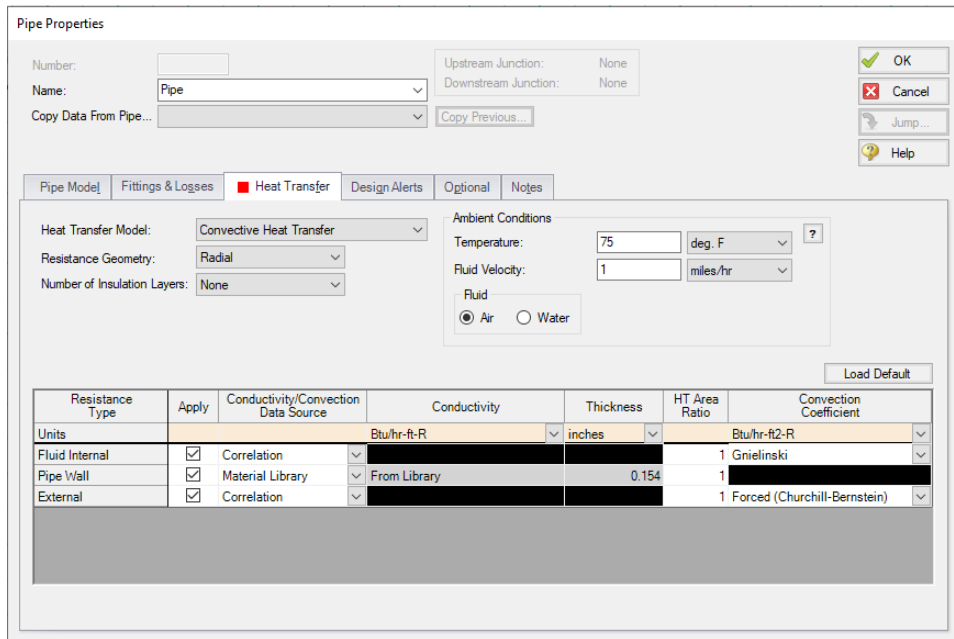

Figure 6: Pipe Heat Transfer Data for Hot Case Scenario
- a. The heat transfer properties of the uninsulated pipes should be set to the values as shown in Figure 6 (the wall thickness for the Pipe Wall will vary, depending on the diameter of the pipe). Change the Heat Transfer Model to Convective Heat Transfer. Next, enter a Temperature of 75 deg. F and enter a Fluid Velocity of 1 miles/hr. Doing so will minimize the heat transfer occurring in the pipe, and result in the highest temperature at the tools. Use the Global Pipe Edit tool to define the heat transfer information for all pipes at once.